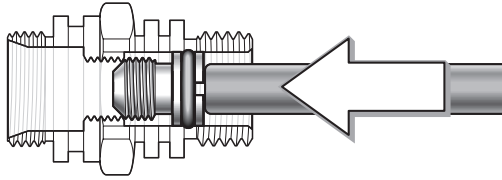

Fig. 10 – Crown Installation
7. Install the O-ring(18) onto the crown(19), and carefully insert the threaded end of the crown into the hose connection end of the inlet fitting(20). Gently press it in further with the blunt end of the extraction tool (P/N 1094-36) until it stops (see Fig. 10).
9. Stand the inlet fitting vertical on a flat surface with the sealing edge of the crown facing up inside. Install the O-ring(21) into the groove at the base of the threads, just above the hex feature.